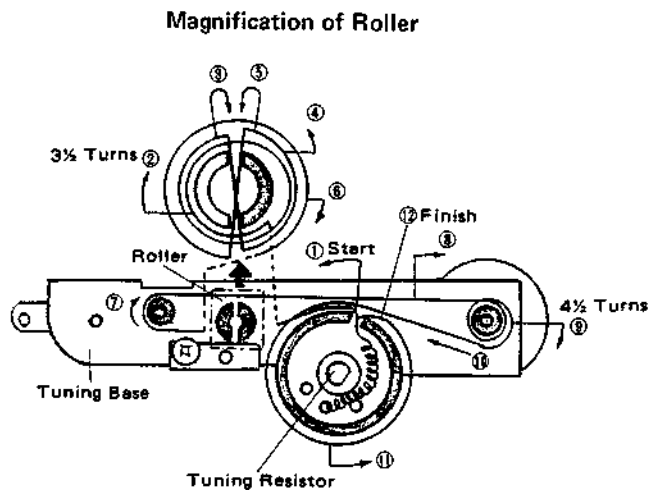

Fig. 29
2. Set tuning resistor fully counter-clockwise previously and fit dial cord according to the arrow marks indicated in Fig. 29. (length of dial cord is 63cm)